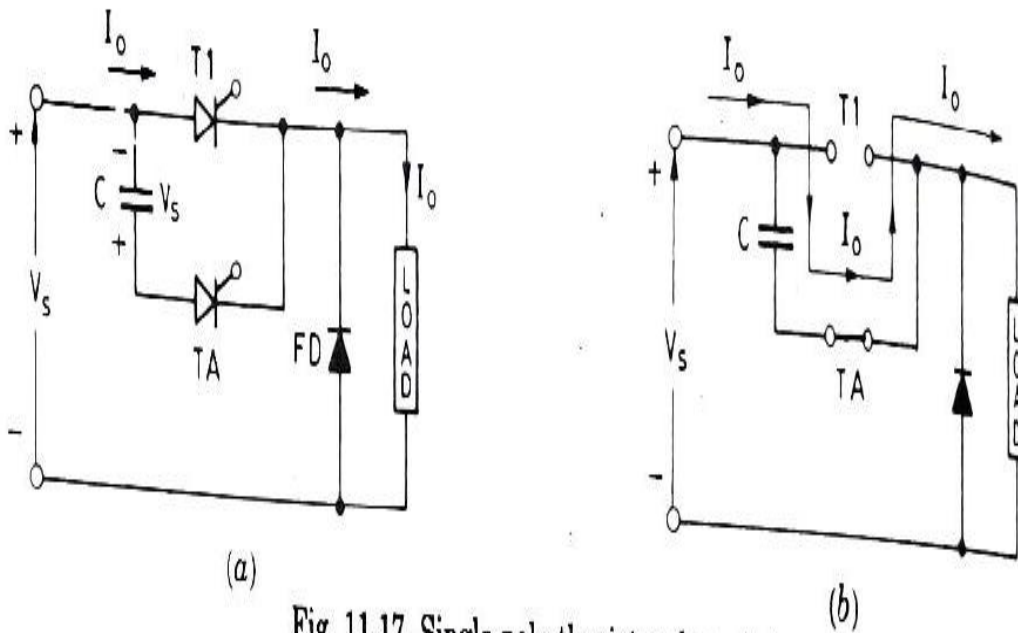

Fig. 11.17. Single-pole thyristor dc switch.
- One such circuit giving the principle of operation of a dc switch is shown in Fig.11.17(a).
- After this, load current flows as shown in Fig.11.17(b).